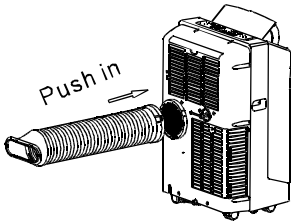

Fig.19
2. Install the flexible Exhaust hose as depicted in Fig.19 & 20.